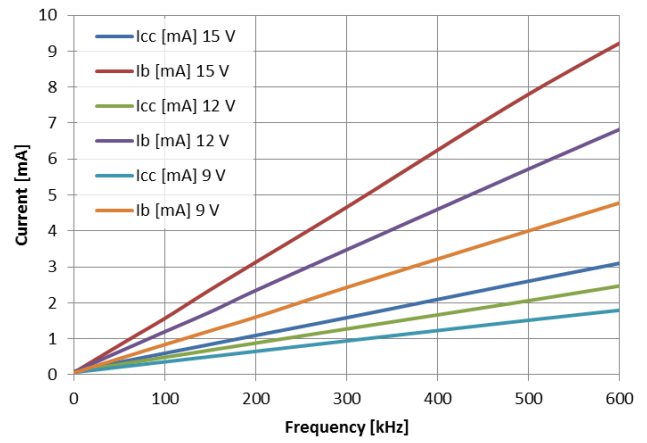

Figure 26.  $I_{CC}$  and  $I_B$  Current Consumption vs. Frequency
1. Power loss of device (except drivers) while switching at appropriate frequency (see Figure 26) is equal to